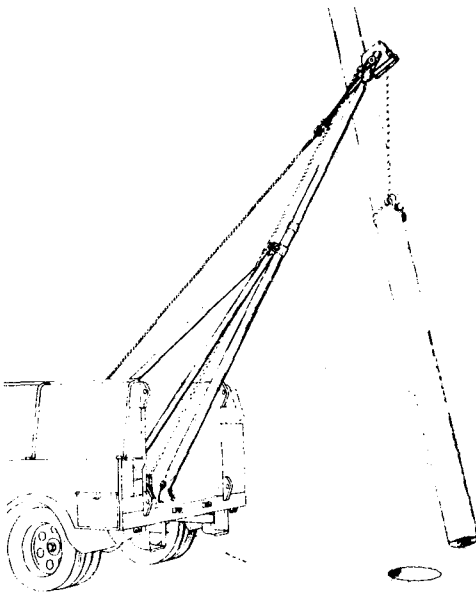
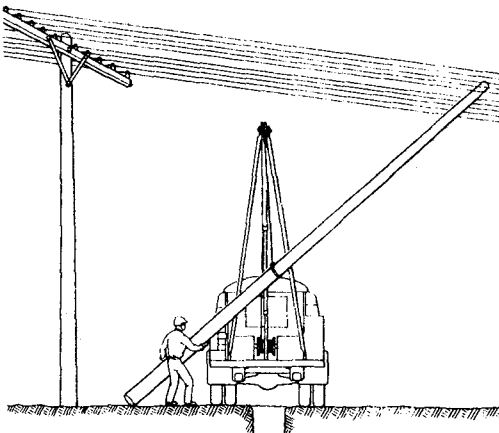

Fig. 8—Raising Pole
Fig. 9—Guiding Pole While Raising
2.09 The pole shall be controlled from the butt end while being raised slowly and positioned for lowering into the pole hole. When the pole is being placed in an existing lead, the top should be guided carefully to avoid contact with wires or cables. ***If electric supply conductors are present the work operations shall meet requirements of Section 621-205-010.*** See Fig. 8 and Fig. 9. When control of the pole from the butt is difficult, the use of pike poles or rope guys to guide the top may be necessary.